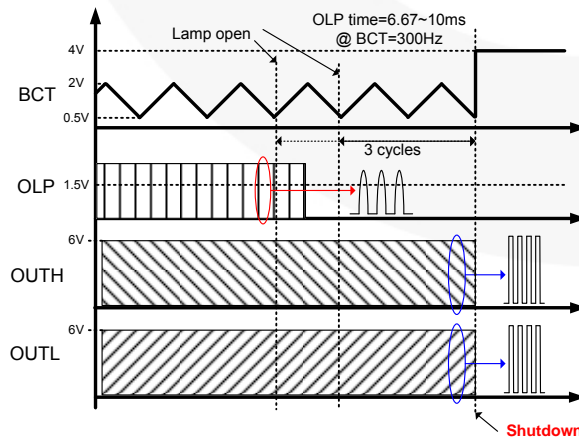

**Figure 40. Arc Protection**
**Arc Protection:** If OLR voltage is higher than 3V, the IC enters shutdown mode after a delay of two CT cycles, as shown in Figure 40.